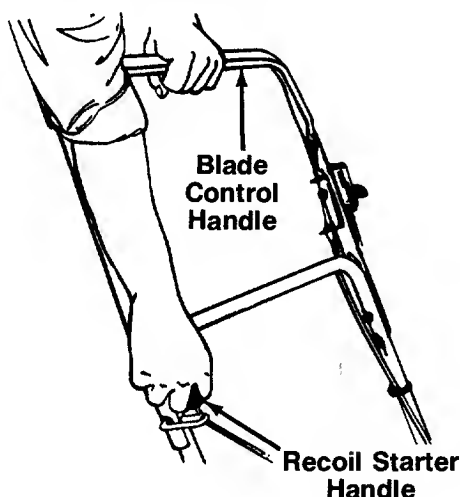

FIGURE 16.
5. Standing behind the unit, depress the blade control handle and hold it against the upper handle as shown. See figure 16.